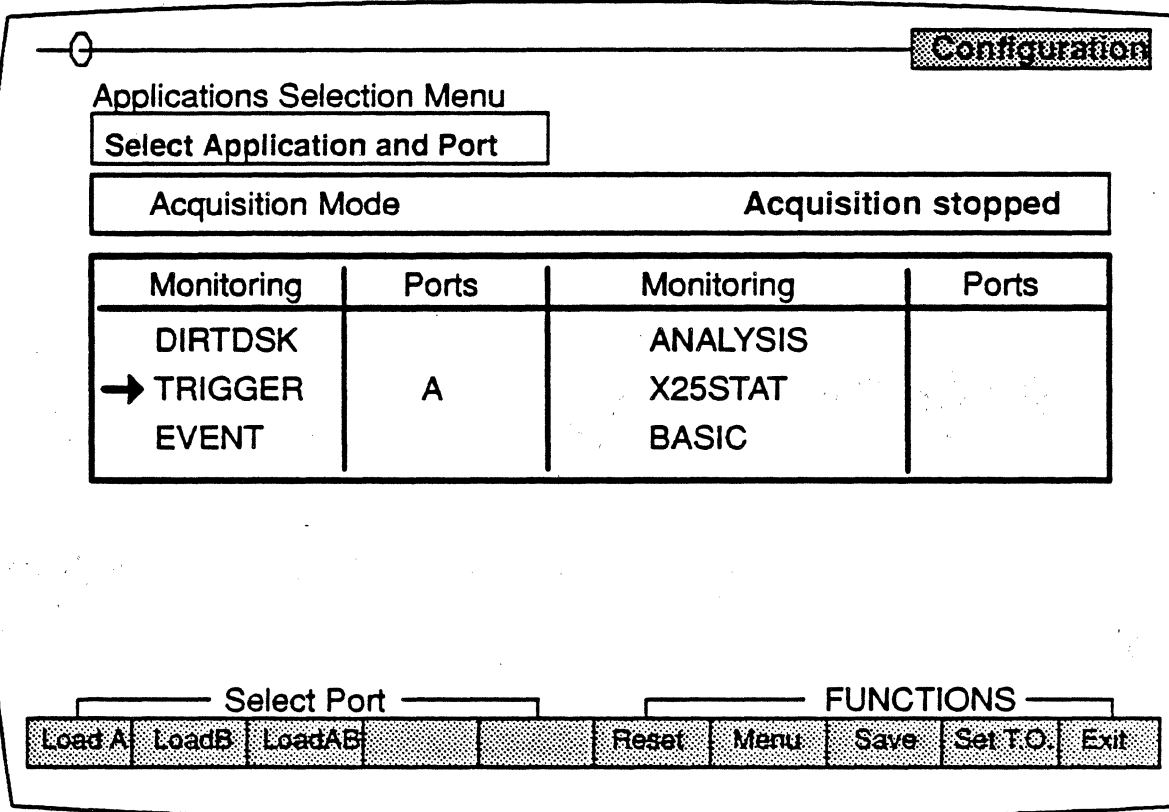

Figure 8.3: The Chameleon Application Selection Menu (X.25 Monitoring)
2. Press **Go** to display the Applications Selection menu (Figure 8.3).